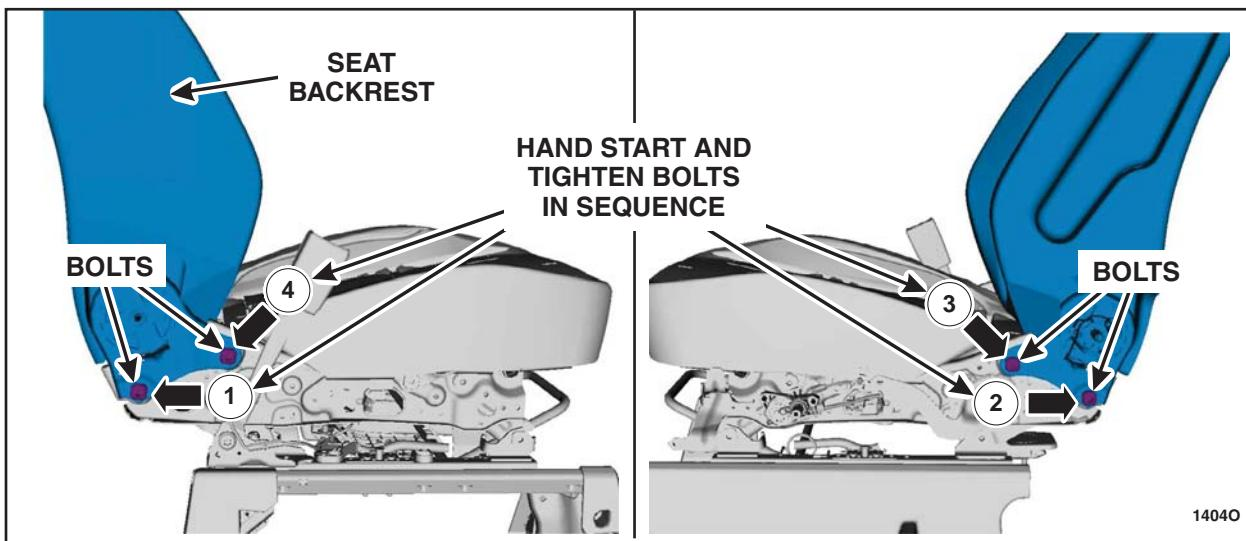

FIGURE 19
- a. Thread all four *new* torx bolts approximately four turns by hand in the sequence shown in Figure 19.
- b. Tighten torx bolts to 45 Nm (33 lb-ft) in the sequence shown in Figure 19.